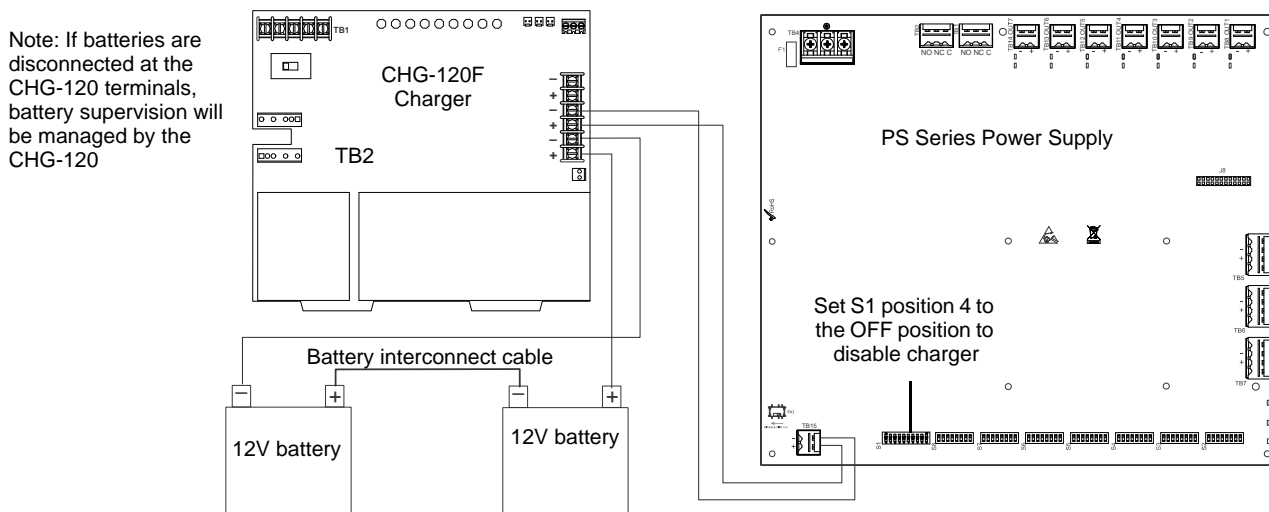

Figure 2.9 Connecting the Power Supply to a CHG-120F Charger
- Connect the battery cables between TB15 (+ and -) on the SK-PS and the CHG-120F charger output circuit (TB2: Out 1+ and Out 1-) as shown in Figure 2.9. Be certain to observe polarity.